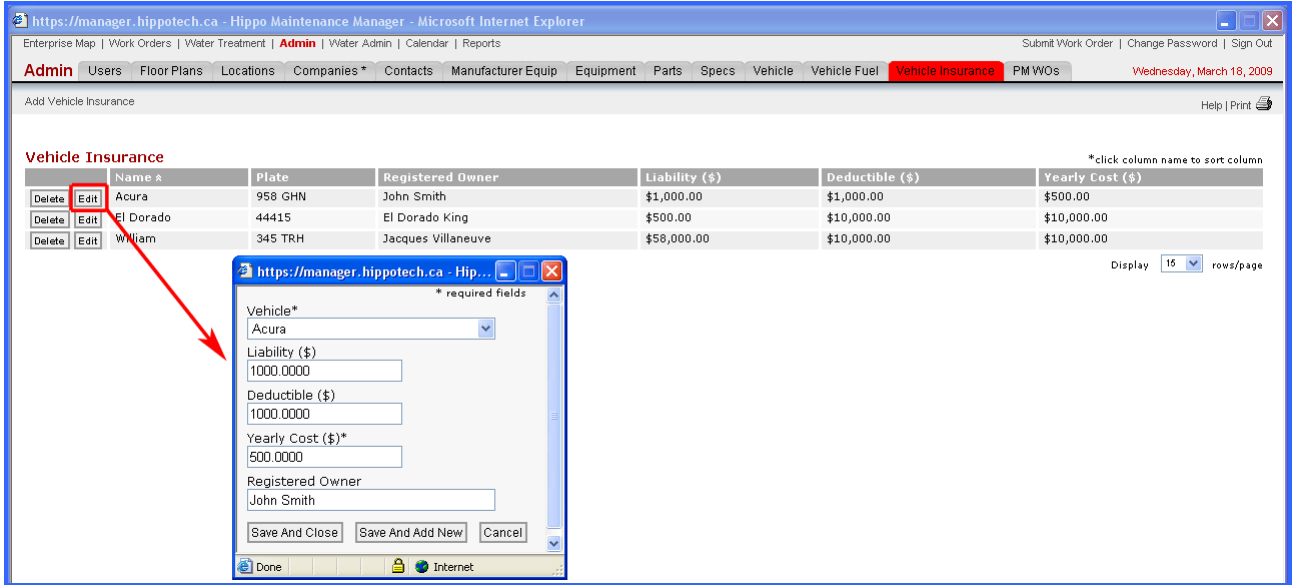

Figure 54: Edit Vehicle Insurance
2. Click the **Edit** button beside the vehicle you want to edit to bring up the vehicle insurance window (See Figure 54).